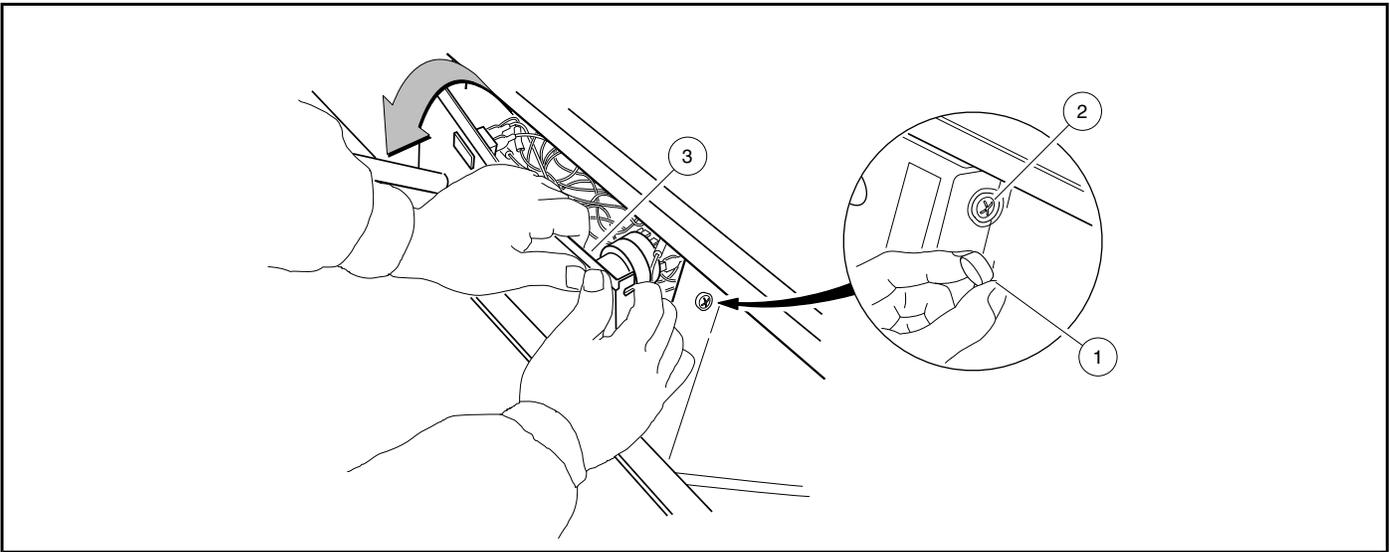

Figure 24-1 Dash Removal
2. Remove the center dash panel (**Figure 24-1, Page 24-2**).
- 2.1. Remove the plastic cap (1) covering the mounting screw (2) on each side of the center dash panel (3) (**Figure 24-1, Page 24-2**).
4. Press the locking tabs on each end of switch (11) and push switch out of dash panel.